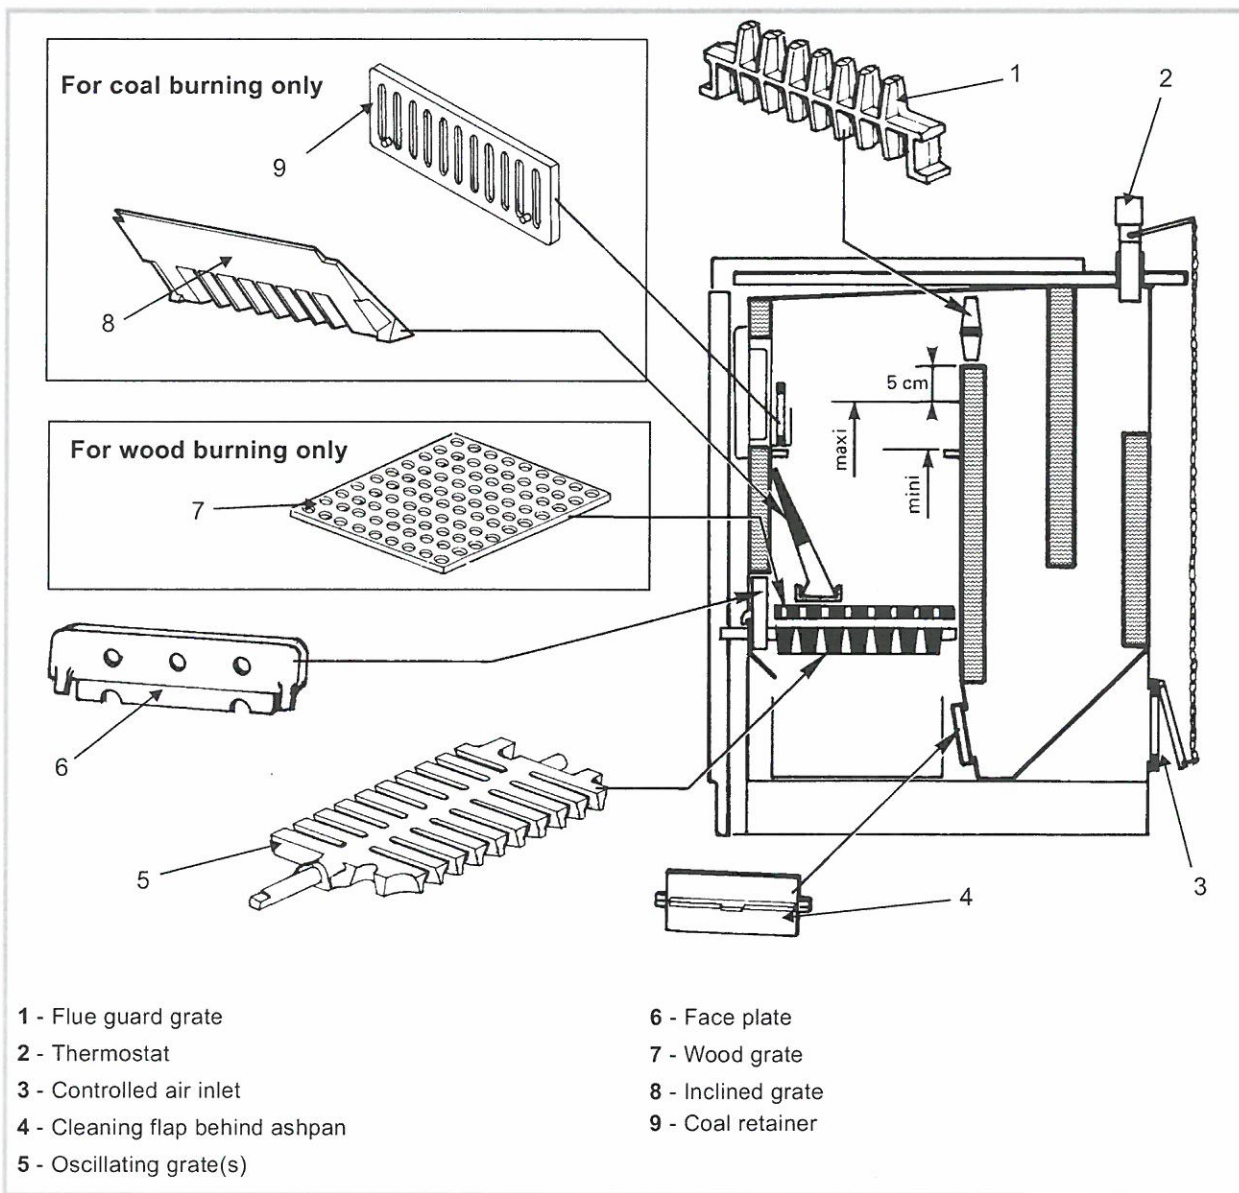

Figure 8 - Description of the appliance
- Check that all the grates are in their correct positions (fig. 8).
- Check the working of the air inlet flap at the back of the boiler (# 2 and # 3, fig. 8).